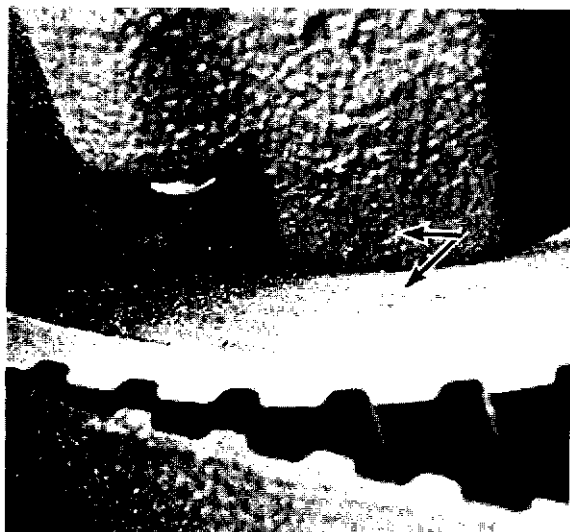

Fig. 9-20
- (7) Rotate the clutch arm plate assembly and align the balance mark with the balance mark on the driven gear (Fig. 9-20).